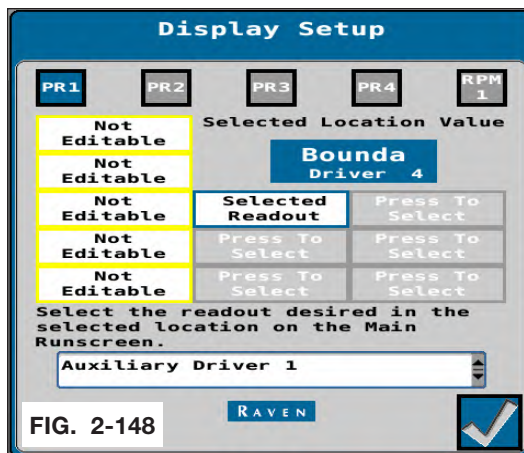

FIG. 2-148
- Click the check box. (FIG. 2-148)